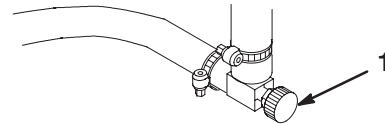

Figure 10
3. Close the fuel shut off valve (Fig. 10) below the fuel tank.